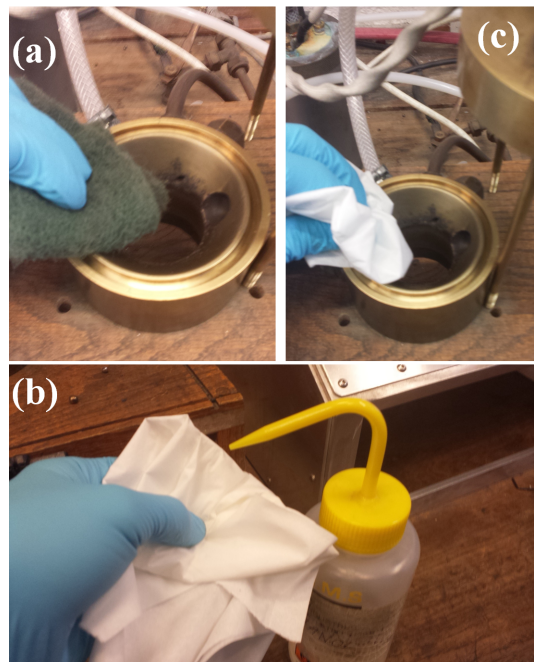

Figure 9: Cleaning the arc Furnace.
**Step 4:** Clean everything (except the window) by scrubbing it with scotch blight (Fig. 9(a)). Spray a bit of solvent (Ethanol/Methanol) into a tissue (Fig. 9(b)) and use it to clean the surface (Fig. 9(c)).